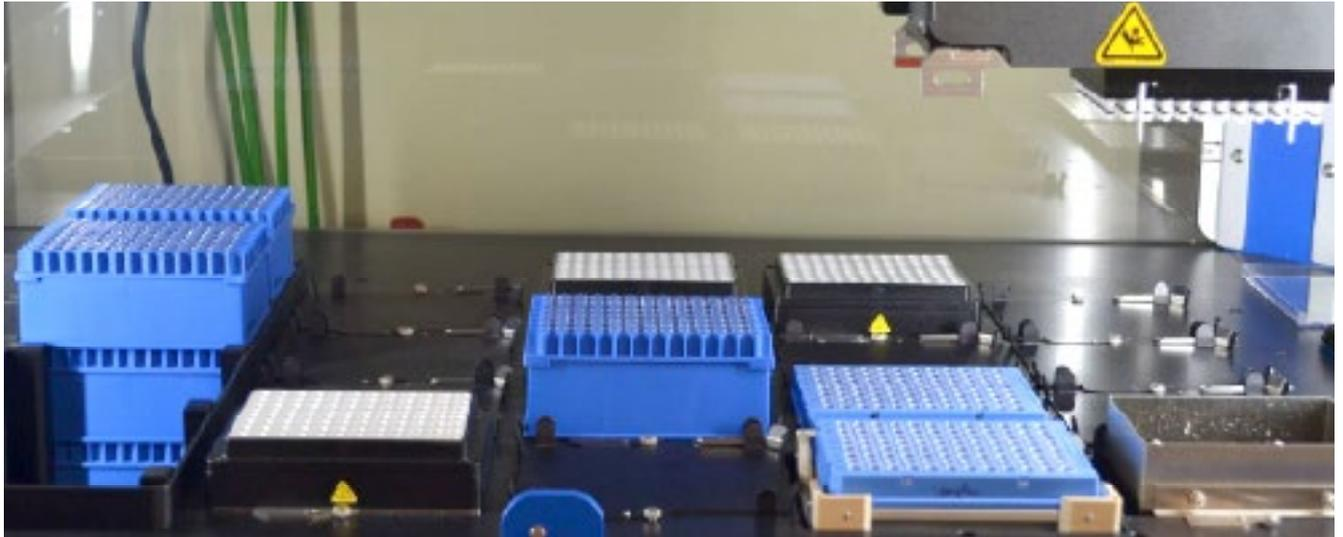

Figure 3. This is the correct deck layout.
5. Follow the on-screen instructions to set up the deck, as shown in Figure 3.